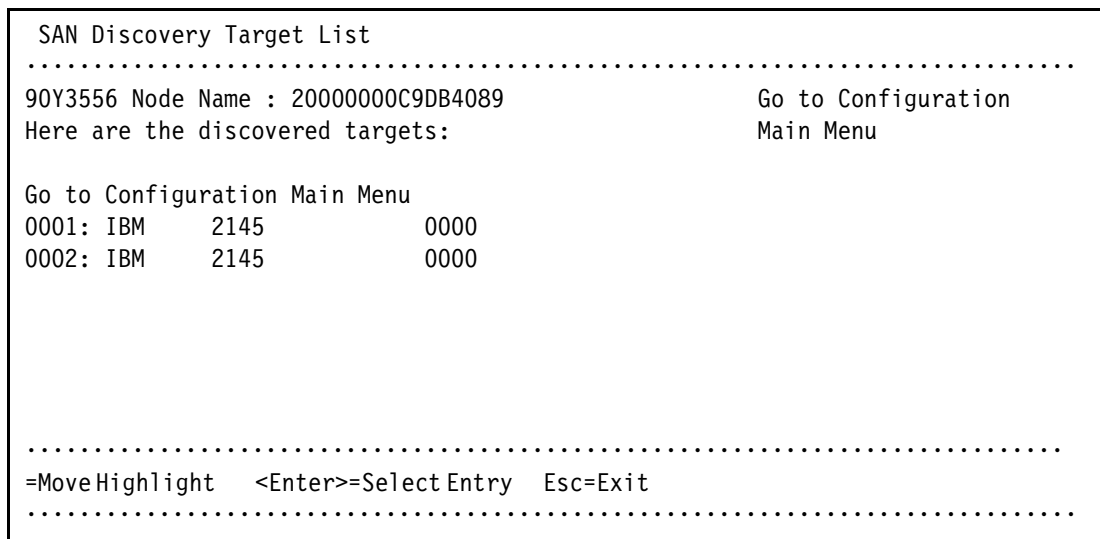

Figure 9-30 SAN Discovery Target List panel
15. In the SAN Discovery Target List panel (Figure 9-30), select your storage device. If you do not see any storage devices here, see “Storage devices not shown” on page 367. Then press Enter.